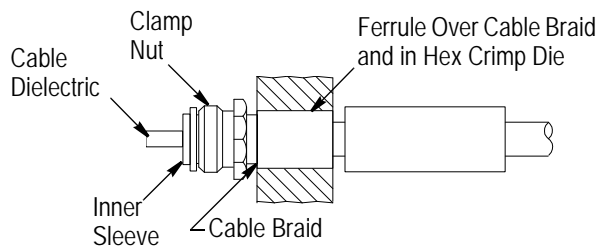

Figure 3
3.2. Crimp Inner Sleeve to Cable (Figure 3)
2. Position the inner sleeve and clamp nut onto the cable dielectric as shown in Figure 3.